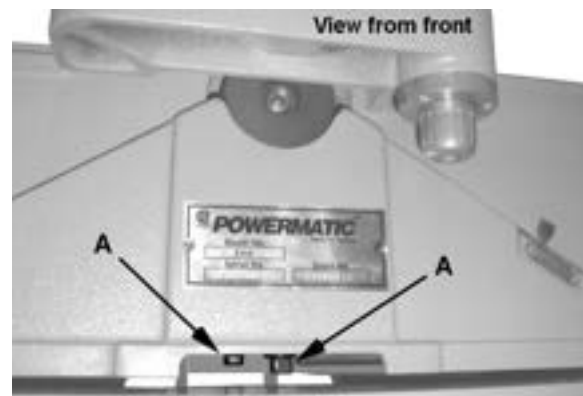

Figure 47
4. Using a 14mm wrench, remove two *screws* (A, Fig. 47) and *lock washers* that secure the cutterhead bearing housings to the base.